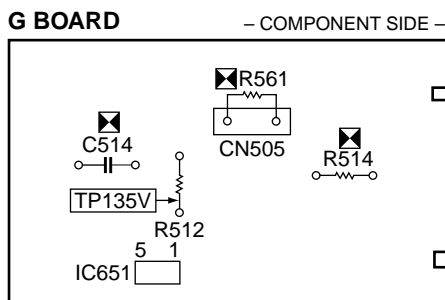

Fig. 4-2
5. If anode voltage is 30kV or lower, replace C514 of 390PF/2kV with that of 100PF/2kV, and check if the voltage is within the standard range. **(Fig.4-2)**
1. Repeat steps ① ~ ⑦ as above.
3. If hold down voltage is 32.5kV or lower, mount a resistor (220kΩ, 1/4W : RN) onto R561 and check again if the hold-down voltage is within the standard range. **(Fig.4-2)**
5. If step 4 is not satisfied, replace IC651 and repeat above steps. **(Fig.4-2)**
3. Connect a 220k Ω variable resistor, across pin ③ and pin ⑤ of IC651 set to maximum value.
6. Gradually turn the 220k Ω variable resistor, and check if OVP works properly when the voltage of TP135V is between 139.0 ~ 151.5V. **(Fig.4-2)**